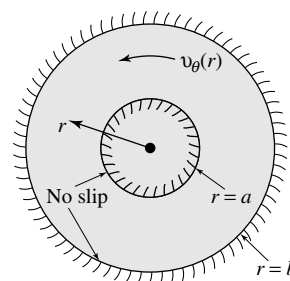

Fig. P4.35
**4.35** From the Navier-Stokes equations for incompressible flow in polar coordinates (App. E for cylindrical coordinates), find the most general case of purely circulating motion  $v_\theta(r)$ ,  $v_r = v_z = 0$ , for flow with no slip between two fixed concentric cylinders, as in Fig. P4.35.